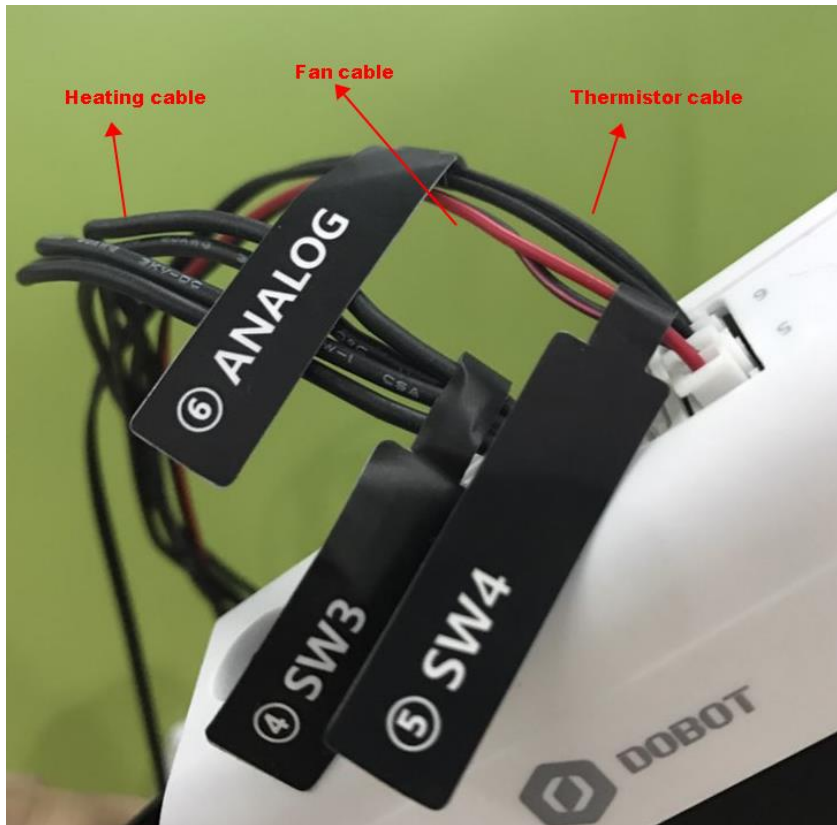

Figure 5.123 Connect hot end to the Forearm
- Step 5** Insert the heating cable to the interface **4** on the Forearm, the fan cable to the interface **5** and the thermistor cable to the interface **6**, as shown in Figure 5.123.